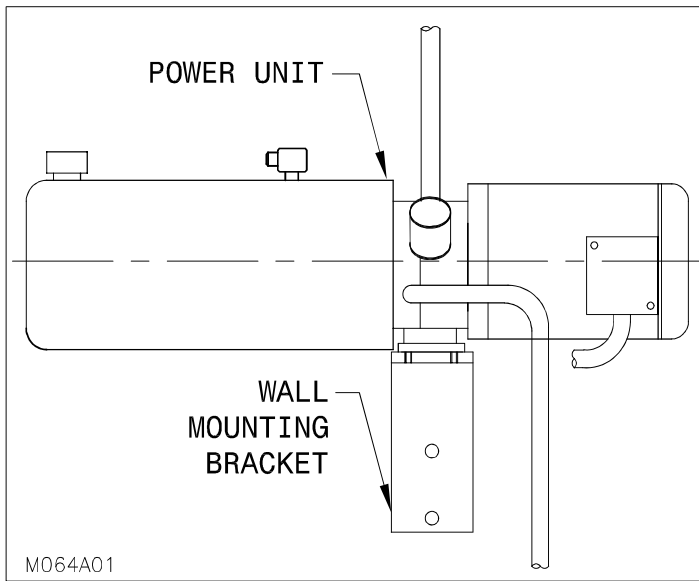
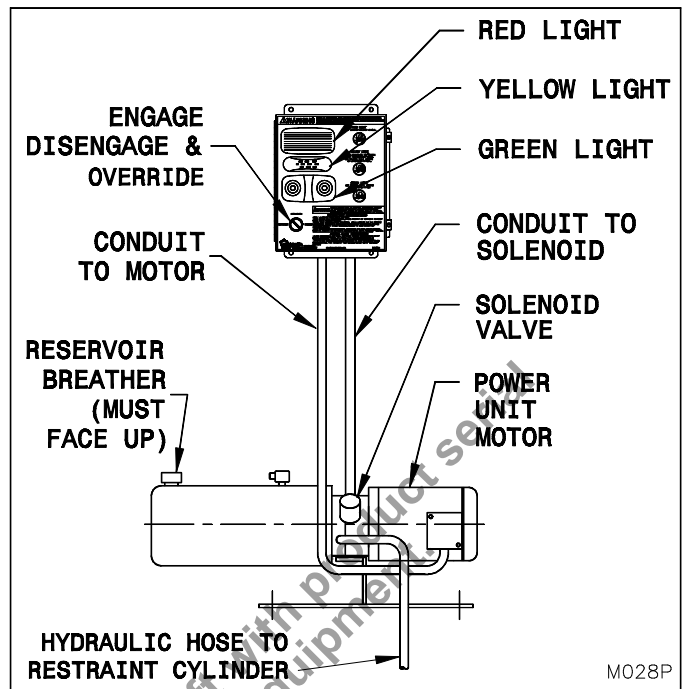

Figure 23: Wall Mounted Power Unit
Figure 22: Control / Power Unit Locations
1. ___ Mount the power unit horizontally with reservoir breather facing up (See “Figure 22: Control / Power Unit Locations” on page 26). When mounting the power unit on a wall, position the power unit above the wall bracket keeping the ½” wall mount holes below the power unit. This ensures easier access to all the wall bracket holes when mounting the power unit (See “Figure 23: Wall Mounted Power Unit” on page 26). Note: The hydraulic power unit and the control panel are important components of the equipment. It is important that they be installed in a location that is free from dirt, debris and splashing and / or wash down. The location should also be free from the likelihood of impacts. Each application has different conditions and design features. Evaluation of the specific site conditions and parameters in conjunction with common sense should be used to determine the appropriate hydraulic power unit and control panel installation location. Confirm the hose(s) length is sufficient to accommodate the desired routing path from the equipment to the power unit.